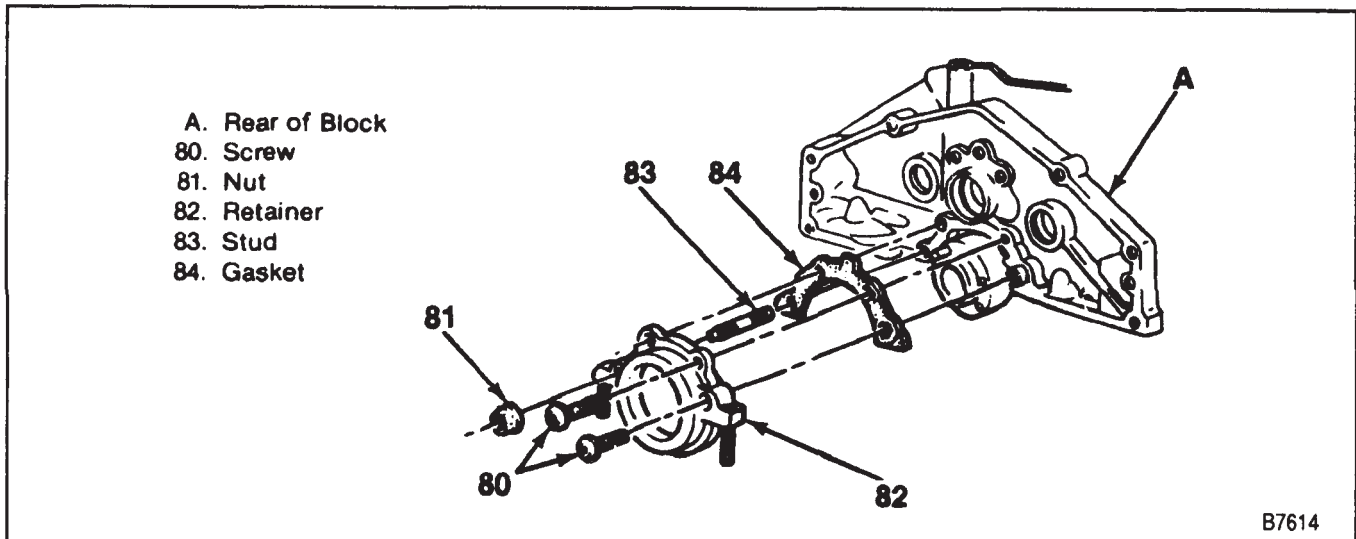
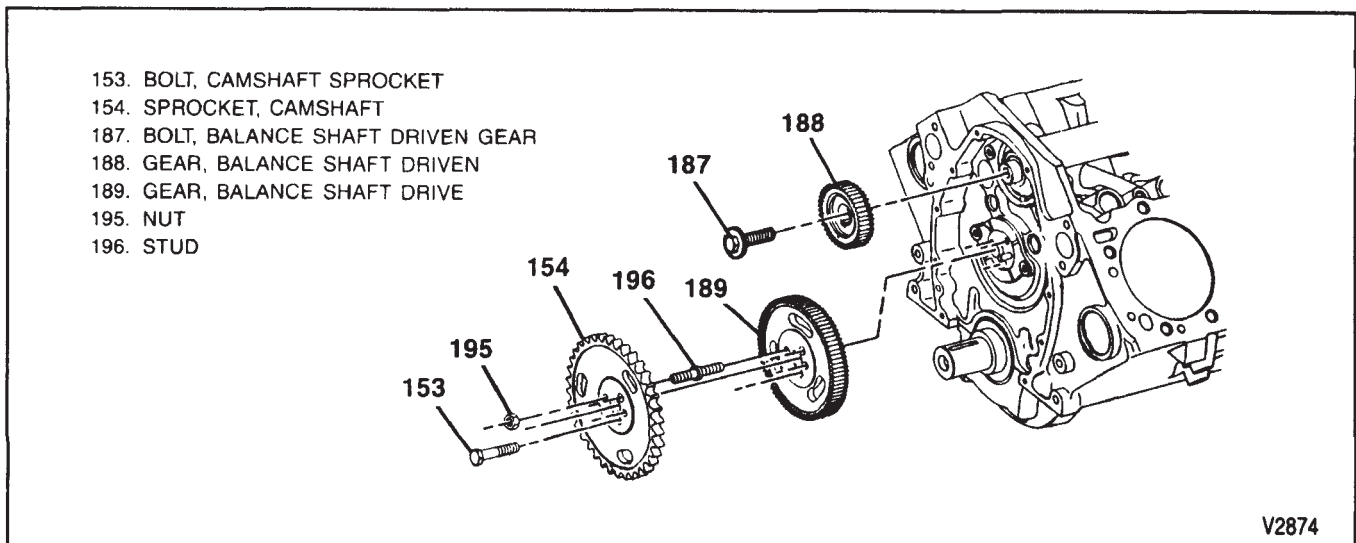

Figure 29—Crankshaft Rear Oil Seal Retainer
Figure 30—Balance Shaft Drive and Driven Gears (VIN W Engine)
**Install or Connect (Figure 29)**
1. Gasket (84) to the block. It is not necessary to use sealant to hold the gasket in place.
2. Seal retainer (82).
3. Screws (80) and nuts (81).
- Screws (80) and nuts (81) to 15 N.m (133 in. lbs.).
**Remove or Disconnect (Figures 30 through 34)**
**→** Install or Connect (Figures 30, 31 and 35 through 38)